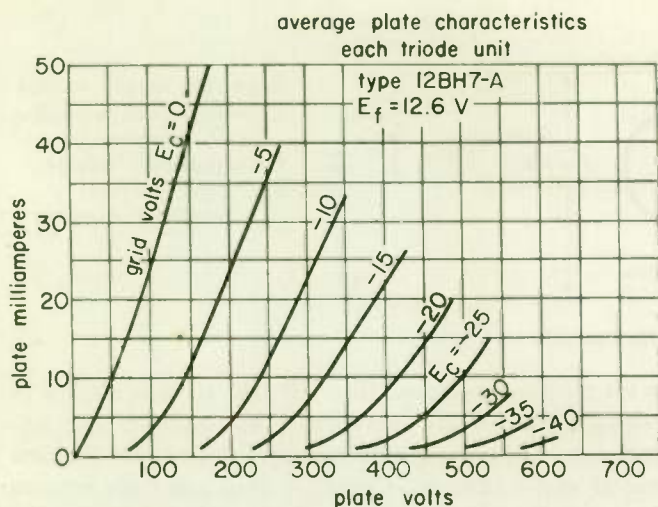
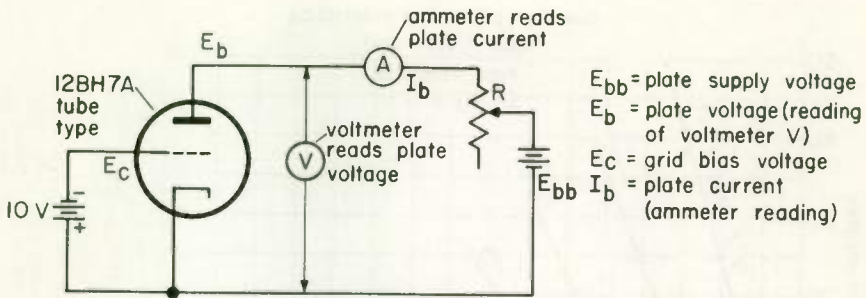
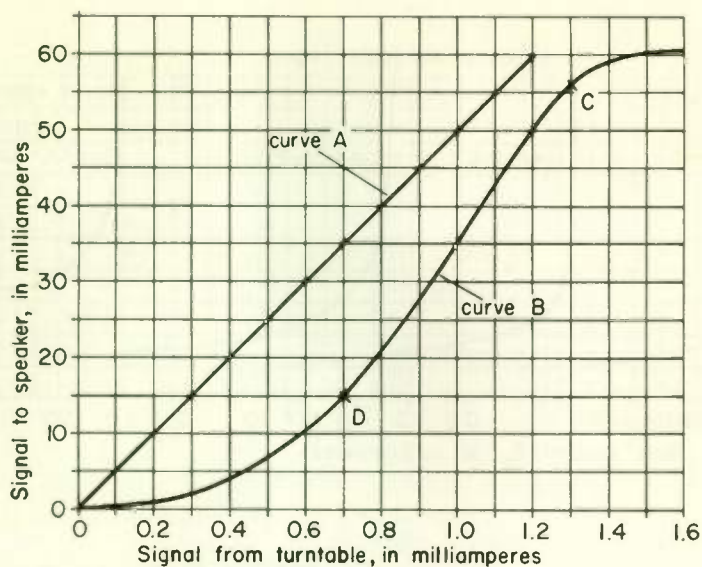

Fig. 14 An example of a family of tube curves.
Fig. 15 Illustration for Example 1.
Fig. 20 Amplitude response for the circuit of Fig. 19.
4 TUBE CHARACTERISTIC CURVES . . . The three important d-c values associated with the operation of a tube are the plate voltage, the plate current, and the grid bias voltage. If any two of these three values are known, the third can be read from a graph displaying the characteristic curves for the particular tube type. An example of such curves is shown in Fig. 14. The family of curves shown are known as E_b - I_b curves because the horizontal and vertical scales give plate volts E_b and plate current I_b . It is necessary to have a different curve on the graph for each grid bias voltage value. Thus curves are shown in Fig. 14 for grid bias voltages E_c of 0 V, -5 V, -10 V, and on up to -40 V.
SOLUTION . . . Push your pencil vertically up from 300 on the horizontal plate volts scale, Fig. 14, until you reach the -10 curve. Then move the pencil point horizontally to the left until you intercept the vertical scale at 23 mA, which is what the plate current will be. If resistor R in Fig. 15 is adjusted until the voltmeter reads 300 V, then the ammeter will read 23 mA, since the tube is biased so that the grid is 10 V negative with respect to the cathode.
SOLUTION . . . There is a curve in Fig. 14 for -5 grid volts and one for -10 V, but there is none for -7.5 V. However, 7.5 is halfway between 5 and 10. Hence, with a pencil draw a curve halfway between the -5 and the -10 curves. From this new curve read 12 mA as the approximate plate current for 200 V on the plate.
A laboratory setup for plotting the curve for -10 grid volts is shown in Fig. 15. As a start toward plotting the curve, read the voltmeter and ammeter and plot that point. Then change the value of R and plot the new readings of the ammeter and voltmeter. Continue until you have enough points plotted to draw the curve for -10 V grid bias. By changing the grid bias voltage, curves can be drawn similarly for other values of grid bias until a complete family of curves, as in Fig. 14, is obtained.
1. Refer to Fig. 14. Using a bias of -5 V, the value of I_b when E_b is 200 V is (a) _____ milliamperes. If E_b is changed to 140 V, the value of I_b is (b) _____ milliamperes.
2. Refer to Fig. 14. Assume you knew the tube was passing 15 mA and the grid bias was -15 V. The value of E_b would be _____ V.
3. Refer to Fig. 14. If the grid voltage E_c is -25 V and I_b is 5 mA, E_b is _____ V.
4. Refer to Fig. 14. If E_b is 300 V and I_b is 23 mA, the value of E_c is _____ V.
5. Refer to Fig. 14. When E_b is 225 V and I_b is 17.5 mA, the value of E_c is _____ V.
6. Refer to Fig. 14. Complete the following table.
Linear curve *A* in Fig. 20 is an ideal response curve for the amplifier. When the turntable signal current increases from 0.2 to 0.3 mA, the speaker current, by curve *A*, increases from 10 to 15 mA. Since a 0.1-mA change in turntable current produces a 5-mA change in speaker current, the current amplification is $5/0.1 = 50$. If the turntable current changes from 1.0 to 1.1 mA, then by curve *A* the speaker current changes from 50 to 55 mA. Thus a 0.1-mA change in the turntable current again pro-
Only a linear curve will give the equal response necessary for distortionless amplification. Suppose, for example, that curve *B* in Fig. 20 represents the actual response of the amplifier. Now when the turntable signal increases from, say, 0.2 to 0.4 mA, the speaker signal increases from approximately 1 mA to 4 mA. Thus a change of 0.2 mA in the turntable signal produces only a 3-mA change in speaker current. The amplification is $3/0.2 = 15$. But when the turntable current changes from 1.0 to 1.2 mA, the speaker current changes 15 mA (from 35 to 50 mA). Now the gain is $15/0.2 = 75$.
of Fig. 20. Notice, however, that the portion of curve *B* between points *D* and *C* is fairly linear. Therefore, as long as we keep the turntable output between 0.7 and 1.3 mA, distortion will be negligible. The tube curves in Fig. 14 are approximately linear except near their bottoms. Hence, undistorted operation of the 12BH7 tube, the type in Fig. 14, requires that the plate current never drop below approximately 5 mA.
3. Refer to Fig. 20. Curve *A* is a linear curve because it is a (a) _____ line, but curve *B* (b) (*is*) (*is not*) a straight line; therefore it is a (c) _____ curve.
4. Refer to Fig. 20, curve *B*. For an increase of 0.1 mA, the current amplification at a turntable current of 0.5 mA is (*less than*) (*about equal to*) (*greater than*) the current amplification at 1.2 mA.
5. Refer to Fig. 20, curve *B*. For an increase of 0.1 mA, the current amplification at a turntable current of 0.7 mA is (*less than*) (*about equal to*) (*greater than*) the current amplification at 1.1 mA.
7. Refer to Fig. 14. If you were operating a 12BH7 tube and the plate current decreased to 3 mA, the output would be _____. Why?